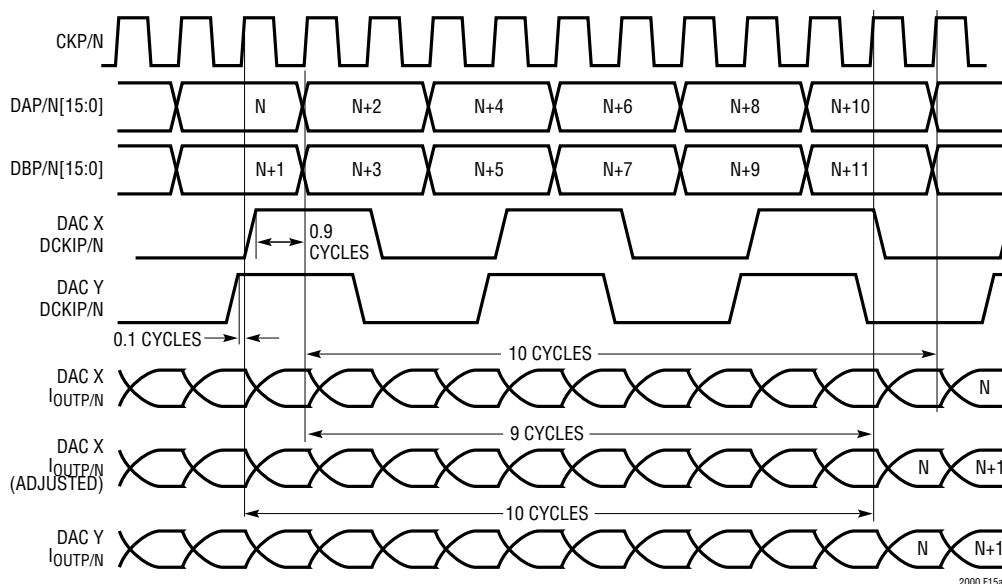

Figure 15a. Sample Waveforms — Synchronizing Multiple LTC2000s in Dual Port Mode
Note that in this example a small timing skew between the two data signals at the DCKIP/N pins of DACs X and Y has caused the DCKIP/N rising edges to arrive on opposite sides of a DAC sample clock (CKP/N) rising edge, and thus within different CKP/N clock cycles. As a result the default behavior is for the output of DAC Y to update with sample N one cycle earlier than the output of DAC X. It is possible to correct this misalignment and synchronize DACs X and Y by adjusting the clock synchronizer settings to subtract one cycle of latency from DAC X, as shown in the adjusted waveform at the bottom of Figure 15a. See the Clock Synchronizer section and Figure 7 for more details on the operation of the clock synchronizer.
Once all the DAC sample clocks and LVDS data clocks are aligned, determine whether any DACs are being updated one cycle late (such as DAC X in Figure 15a) by determining whether DCKIP/N is arriving at the DACs within the same CKP/N clock cycle. To do this in dual-port mode, first use the phase comparator outputs SYNC\_PH and Table 12 to determine the delay from the DCKIP/N rising edge to the next CKP/N rising edge for each DAC (measured in sample clock cycles).
both DACs within the same sample clock cycle, the difference in DCKIP/N to CKP/N delays indicated by SYNC\_PH will equal the actual DCKIP/N timing mismatch, and thus will be less than 0.4 cycles. If DCKIP/N arrives at the DACs within different cycles, as in Figure 15a, the difference in the delays indicated by SYNC\_PH will equal 1 cycle minus the actual DCKIP/N timing mismatch, and thus will be greater than 0.4 cycles. Thus if the difference between the delays indicated by SYNC\_PH is greater than 0.4 cycles, the DCKIP/N rising edges are arriving in different sample clock cycles.
For the example in Figure 15a, we might read 0x25 for SYNC\_PH on DAC X and 0x52 on DAC Y. Table 12 tells us that the DCKIP/N to CKP/N delay is greater than 0.8 cycles for DAC X and less than 0.2 cycles for DAC Y, and thus the difference between them is at least 0.6 cycles. We conclude that the DCKIP/N rising edge of DAC X must fall within a later sample clock cycle than that of DAC Y, and thus that DAC X is being updated one cycle later than DAC Y.
In this example, reading register 0x06 of DAC X shows SYNC\_PH = 0x25 and that the SYNC\_PS setting needs to change from the default (10) to the desired adjusted value (00), subtracting one cycle from the latency of DAC X (refer to Table 12). Write 0x04 to register 0x05 of DAC X to set SYNC\_MSYN = 1 and SYNC\_PS = 00. The outputs of DAC X should now align with DAC Y as shown in Figure 15a. See Table 6 for details regarding the synchronizer registers 0x05 and 0x06. Sample verilog code implementing the synchronization of multiple LTC2000s using Tables 12 and 13 can be found at: